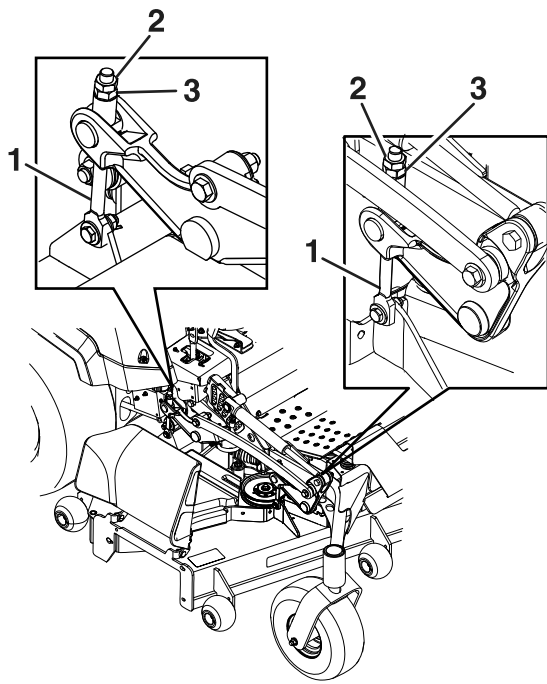

Figure 82
9. Fine-tune the adjustment nut on the front deck lift assembly by turning it (Figure 82).